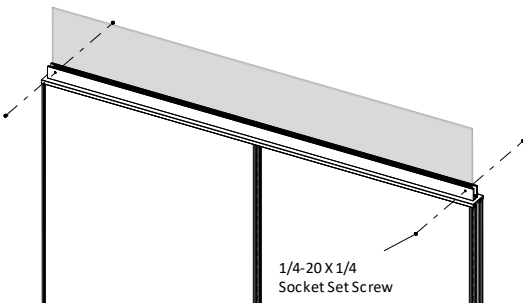

Figure 4
5. Align and secure the glass/acrylic by inserting a 1/4-20 X 1/4" Socket Set Screw through each of the holes on the side of the Frameless Glazed Extrusion using an Allen Key driver, (Figure 4).